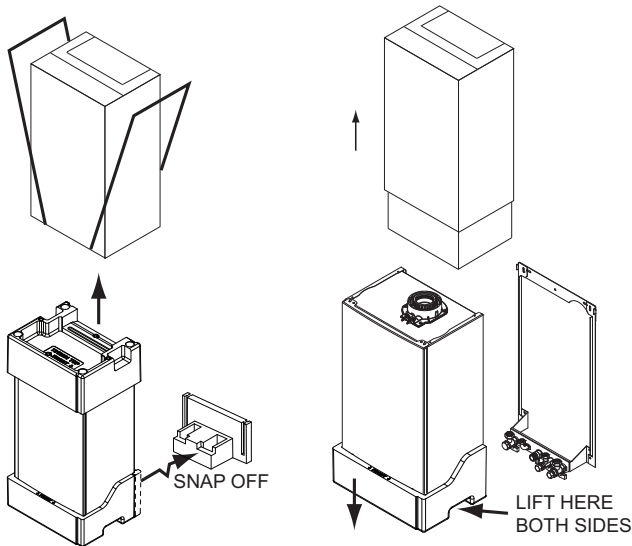

Fig. 16
2. Follow the procedure on the carton to unpack the boiler or see Fig. 16.